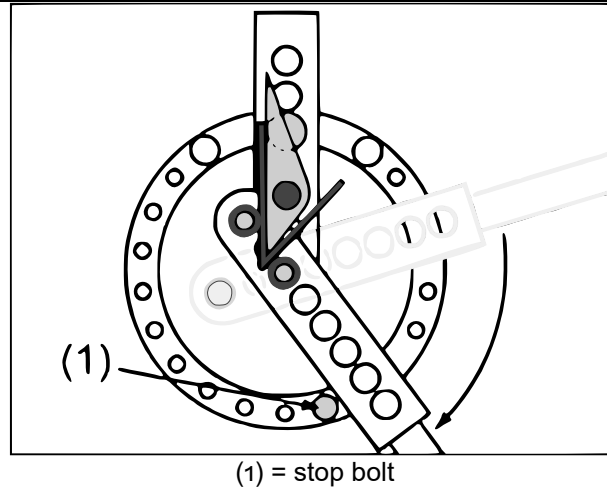

Figure 7: Performing a simple angle bending
2. Depending on the desired angle and the proportion between the angle bending block **(18)** and bow-type lever **(15)**, choose two bending tools that keep the work piece properly against the angle bending block, and install them as shown in Fig. 7.
3. To limit the bending range, mount the stop bolt **(11)** into the corresponding bore of the outer ring of the bending support **(4)** as shown in Fig. 7.